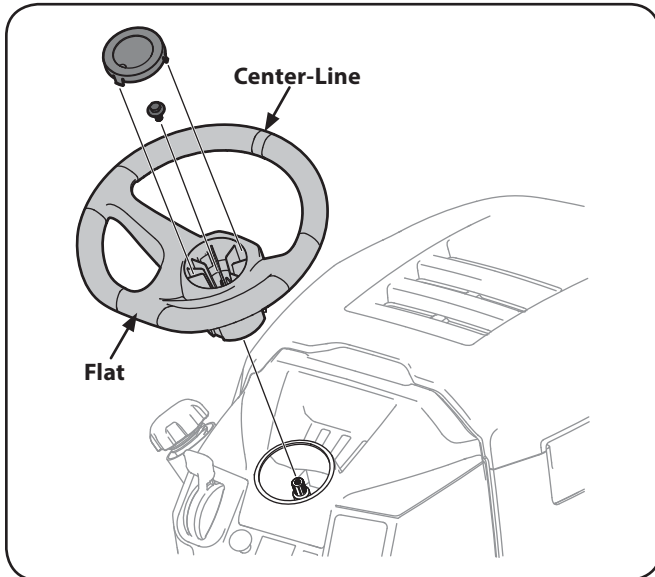

Figure 3-6
1. With the wheels of the tractor pointing straight forward, align the steering wheel by using the center-line on the front of the steering wheel pointing straight ahead and the flat section of the steering wheel facing toward the seat, place the steering wheel over the steering shaft. See Figure 3-6.